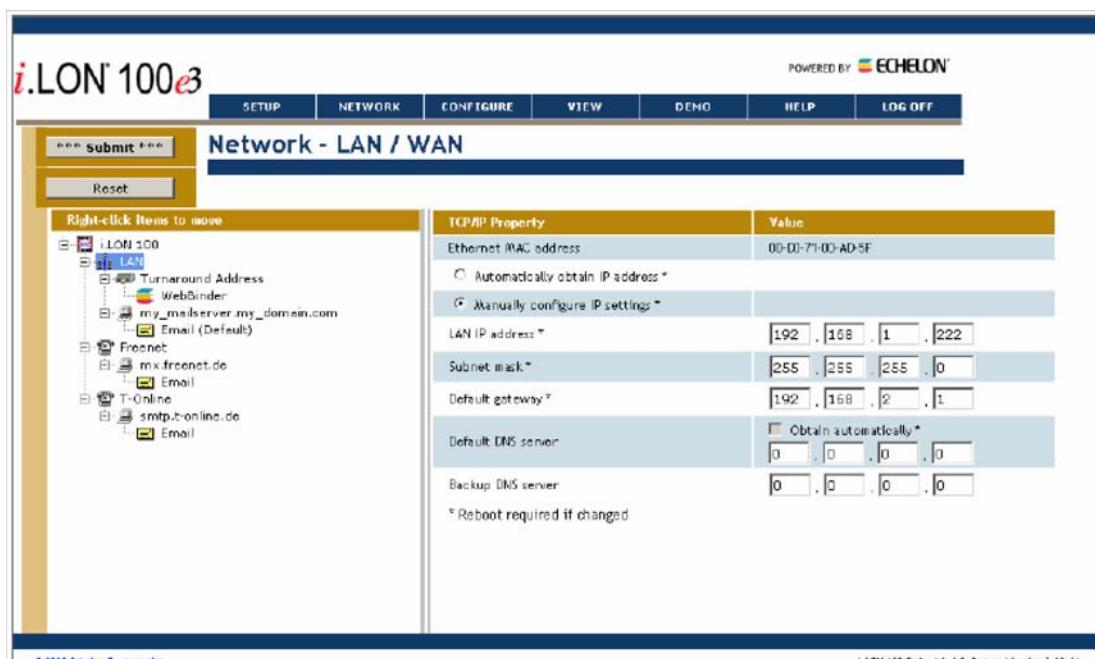

Figure 23: *i.LON* 100 e.3 Internet Server Properties Screen — LAN/WAN
7. Click the **Setup** tab and select **TCP/IP**. The LAN/WAN setup page appears (Figure 23).